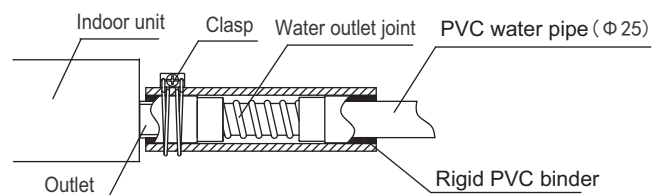

Fig. 8-1
- Please use the accessory drain hose to connect the outlet of indoor unit with the PVC water pipe, and then use the accessory the clasp for chucking (Refer to Fig. 8-1).